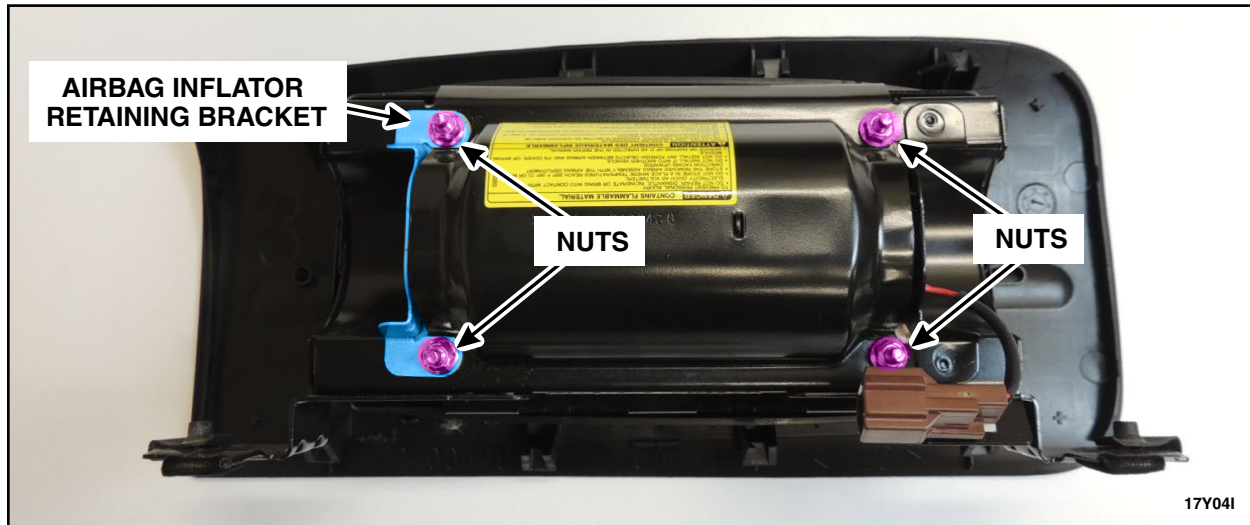

FIGURE 8
6. Remove and discard the four airbag inflator retaining nuts and the bracket. See Figure 8.